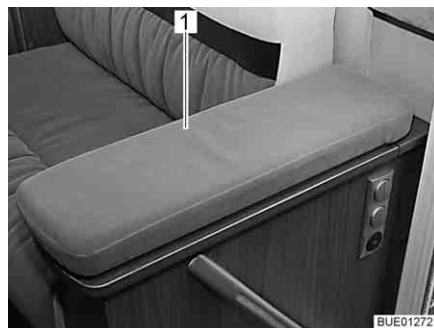
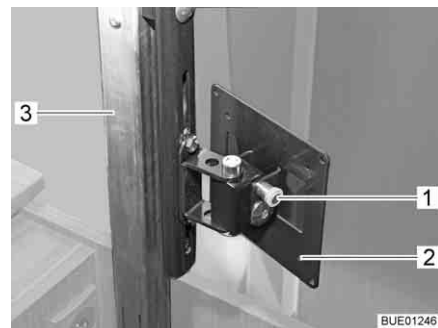

Fig. 62 TV compartment
Fig. 63 Lifting mechanism
- Lightly depress the cover (Fig. 62,1) of the TV compartment in the centre. The extension column (Fig. 63,3) is released and starts to move upwards.
- Pull the release knob (Fig. 63,1) and swivel holder (Fig. 63,2) with flat screen to the desired position.
- Turn the flat screen back into the original position until holder (Fig. 63,2) engages in the lock.
- Press the middle of the cover (Fig. 62,1) downwards against the resistance of the extension column (Fig. 63,3) until the locking mechanism engages.